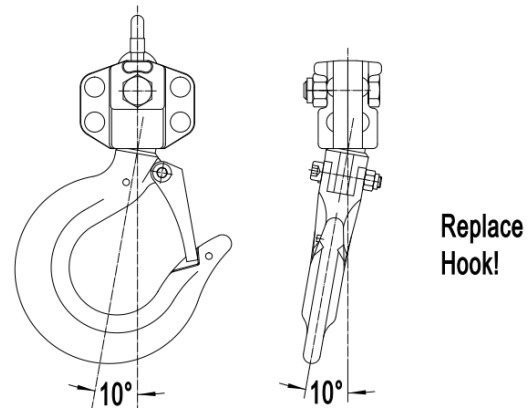

Figure 3
8. If the vertical angle at the neck of the bottom or top hook reaches 10° , replace the hook (see Figure 3).